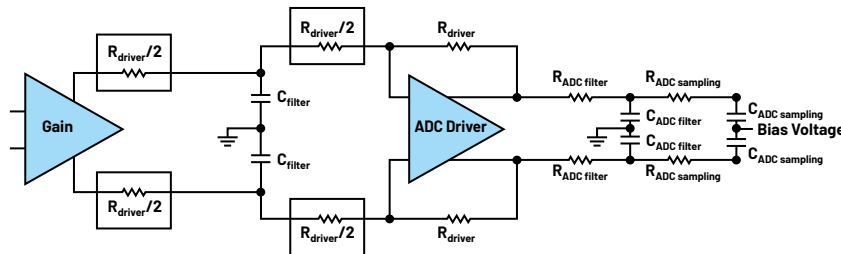

Figure 4. Setting resistor values for noise analysis.
- The signal filter is embedded within the driver. The choice of using a passive filter reduces the overall power, which is one of the main attributes of the signal chain under analysis. By doing this, the values of  $R_{\text{filter}}$ ,  $R_G$ , and  $R_F$  need to be carefully chosen to ensure an overall signal gain of 1, as highlighted in Figure 4. The value of  $R_G$  contributes to the bandwidth of the signal filter as follows:
This is done to avoid gain at the driver stage, as we only want gain to occur in the gain block. Also  $R_{driver} = R_F$  as shown in Figure 4.
- ▶ Noise generated by the amplifier resistors ( $R_{driver}$  and  $R_{driver}/2$  highlighted in Figure 4) is filtered by the combined filter that exists in the next two blocks of the signal chain.